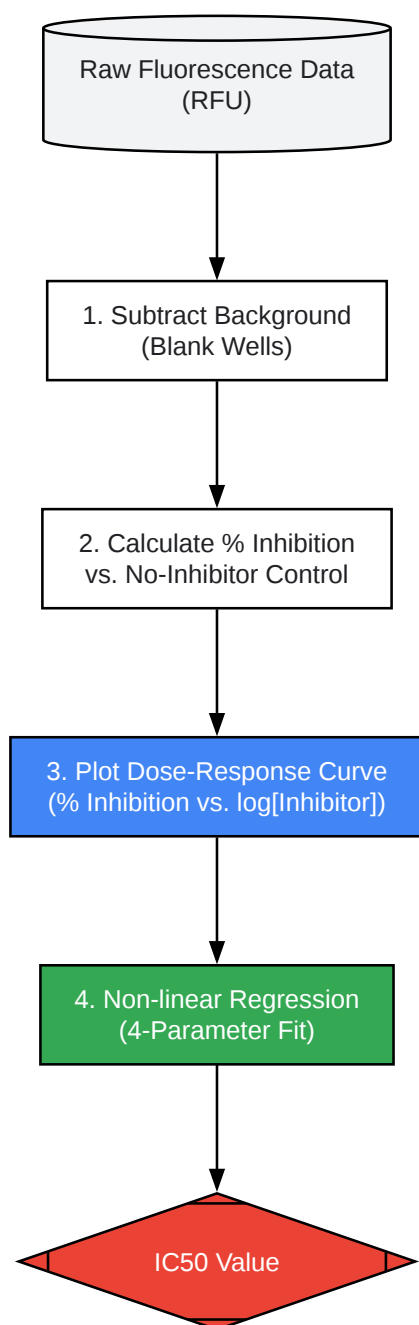

Figure 2. Data Analysis Workflow for IC50 Determination.
Caption: Figure 2. Data Analysis Workflow for IC50 Determination.
- ResearchGate. (n.d.). (A) Chemical structure of **splitomicin**. (B) Activation of a TRP1... ResearchGate. [Link]
- ResearchGate. (n.d.). Fig. 2. Substrate sequence requirements and regions on SIRT1 necessary... ResearchGate. [\[Link\]](#)